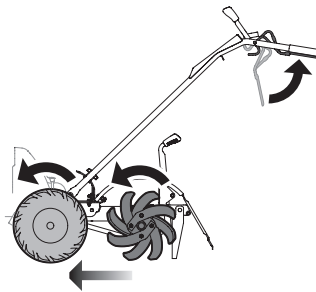

Figure 16
- b. As the tiller drives forward the tines will also rotate, digging into the ground. Walk behind and a little to one side of the tiller. Use a secure, comfortable grip on the handlebars. Let the tiller move ahead at its own pace. See Figure 16. To stop the forward motion of the wheels and tines, release the bail.